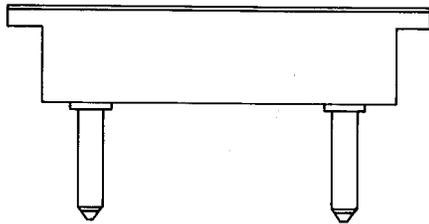

Fig. 16—465A Plug
**2.16 465A:** The 465A (Fig. 16) consists of a molded plastic plug having two terminals with